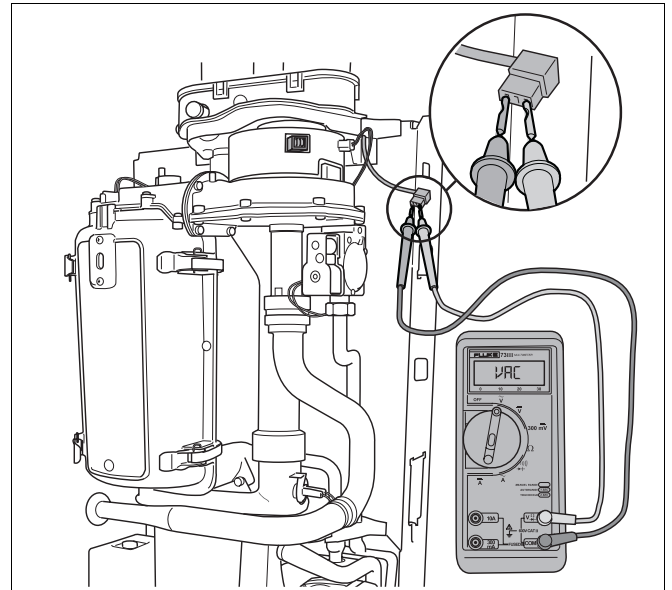

fig. 70 Remove 230 VAC plug
- Remove the 230 VAC plug (→ fig. 70) from the fan.